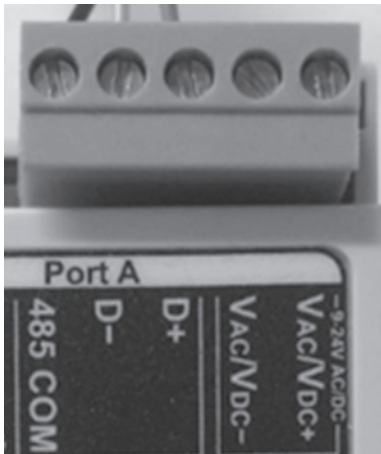
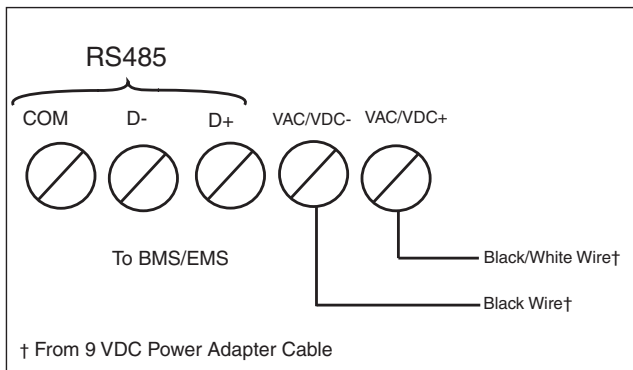

Figure 10. Mirius Port A Terminal
Figure 11. Port A Connection Diagram
**Figure 10** is a close up of the connection terminal and **Figure 11** shows the appropriate connection to the strip using the power adapter and EMS/BMS communication cable.
The connections in **Figure 11** are the same regardless of the appliance or the communication protocol.
Port A of the module is the connection location for the EMS/BMS connection. See **Figure 10**. For connections to the terminal use the labeling on the module as a guide.